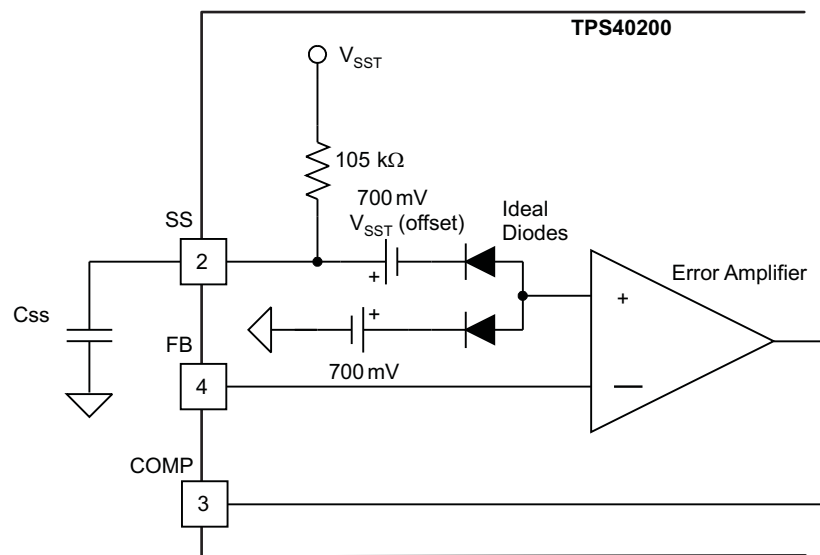

Figure 31. Soft-Start Circuit
An external capacitor, C_{SS} , connected from the soft-start (SS) pin to ground controls the TPS40200 soft-start interval. An internal charging resistor connected to VDD produces a rising reference voltage, which is connected through a 700-mV offset to the reference input of the TPS40200 error amplifier. When the soft-start capacitor voltage (V_{CSS}) is below 150 mV, there is no switching activity. When V_{CSS} rises above the 700-mV offset, the error amplifier starts to follow $V_{SST} - 700$ mV, and uses this rising voltage as a reference. When V_{CSS} reaches 1.4 V, the internal reference takes over, and further increases have no effect. An advantage of initiating a slow start in this fashion is that the controller cannot overshoot because its output follows a scaled version of the controller's reference voltage. A conceptual drawing of the circuit that produces these results is shown in Figure 31. A consequence of the 700-mV offset is that the controller does not start switching until the V_{CSS} has charged up to 700 mV. The output remains at 0 V during the resulting delay. When V_{CSS} exceeds the 700-mV offset, the TPS40200 output follows the soft-start time constant. Once above 1.4 V, the 700-mV internal reference takes over, and normal operation begins.